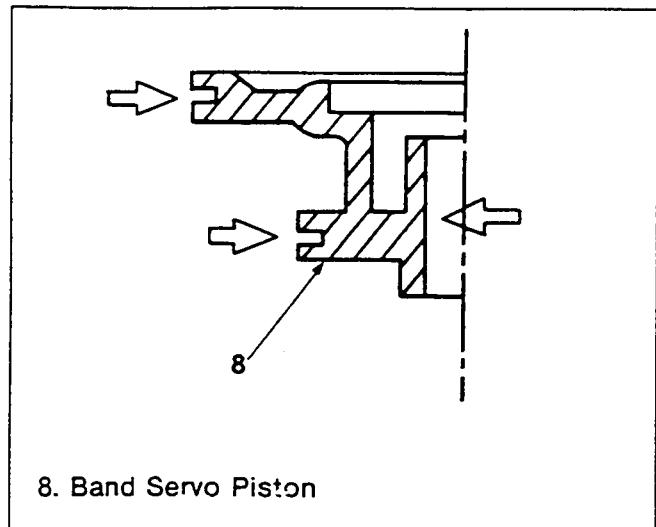

Figure 210. Band Servo Piston Check
**Inspect****Band Servo Piston (Figure 210)**